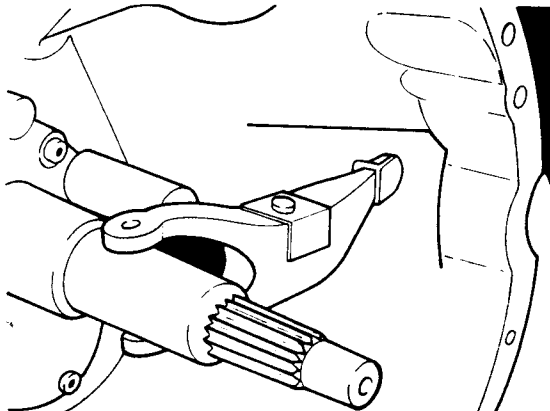

Fig H1.20
- (3) Refer to Fig H1.20. Remove the bolt, washer and clip to separate the clutch lever from its supporting pivot.